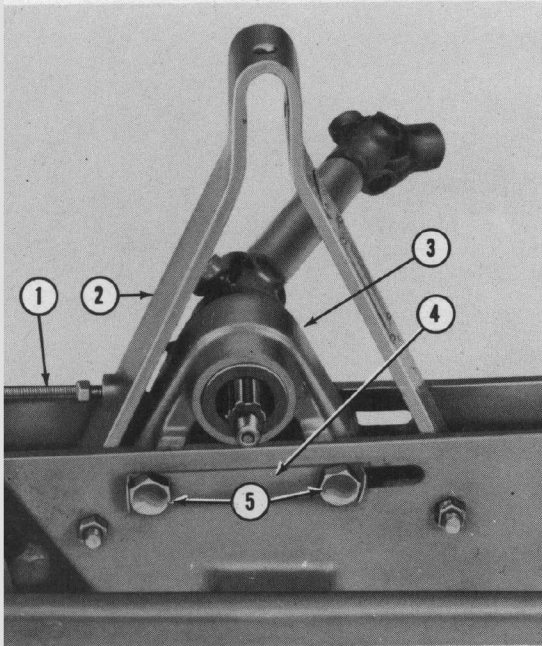
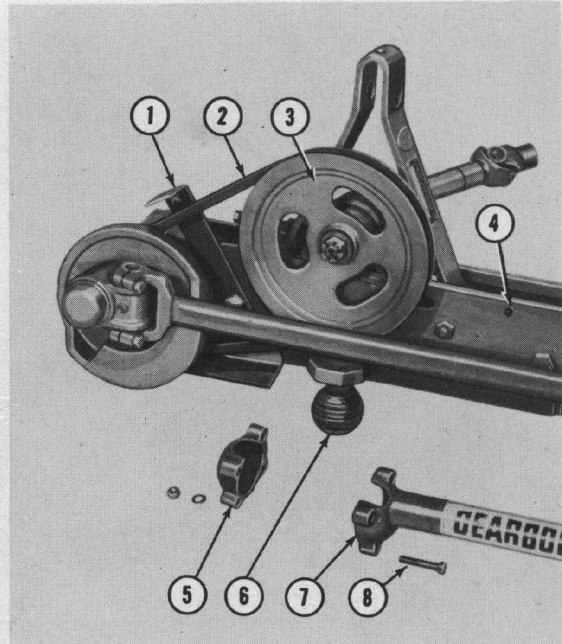

Figure 3
Figure 4
2. Remove the drive pulley (3), Figure 4, from the drive shaft and loosen the belt adjusting bolt (1), Figure 3.
- a. Position the drive shaft bearing housing (3), Figure 3, in the main frame close to the left side of the A-frame (2) as shown.
- b. Attach the bearing housing to the main frame with the lock plate (4), Figure 3, and the two $\frac{5}{8}$ " x 4" bolts (5), flat washers, lock washers and nuts provided. Do not secure at this time.
- c. Reattach the drive pulley (3), Figure 4, to the splined end of the drive shaft and
3. Slide the V-belt (2), Figure 4, over the pitman arm onto the pitman drive pulley and the drive shaft pulley (3) as shown. Turn the belt adjusting bolt (1), Figure 3, against the bearing housing (3) until there is $\frac{1}{4}$ " slack in the V-belt midway between the pulleys. Tighten the nuts on the bolts (5), Figure 3, securely.
4. Place the rubber cup (6), Figure 4, over the steel ball on the mower frame as shown. The rubber cup is provided in the bag of parts. Tilt the main frame assembly forward on the drive shaft and secure the drag bar (7), Figure 4, to the ball (6) with the drag bar outer cup (5) and four $\frac{3}{8}$ " x 2" bolts (8). Secure with the lock washers and nuts provided.
- a. Position the belt guard over the flywheel pulley and the drive pulley (3), Figure 4, and align the holes in the guard with the holes in the bracket (1) and the hole (4) in the main frame.